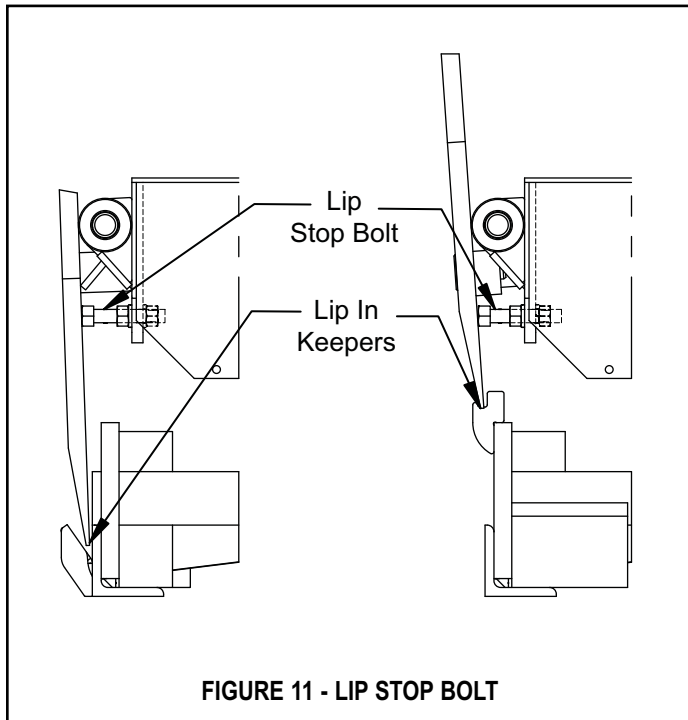

FIGURE 11 - LIP STOP BOLT
**NOTE:** Before continuing be sure the lip stop bolt is properly adjusted. See figure 11.